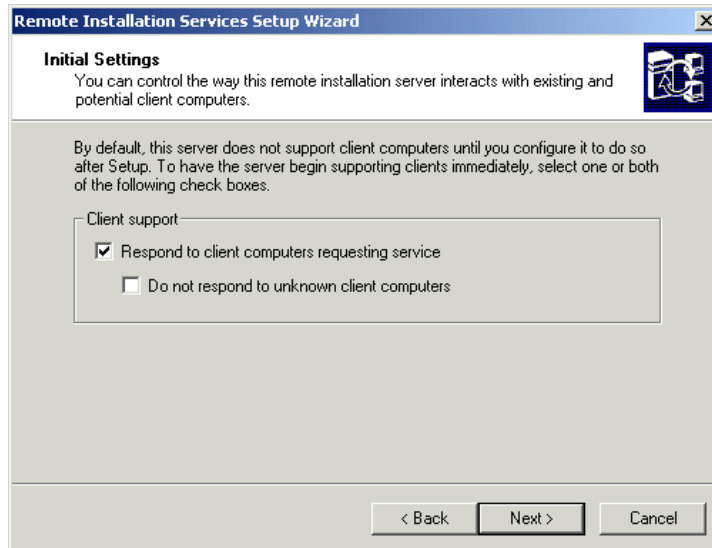

Figure 5-3 Settings for RIS-installation
10. Select **Respond to client computers requesting service** (Figure 5-3) and click **Next**.